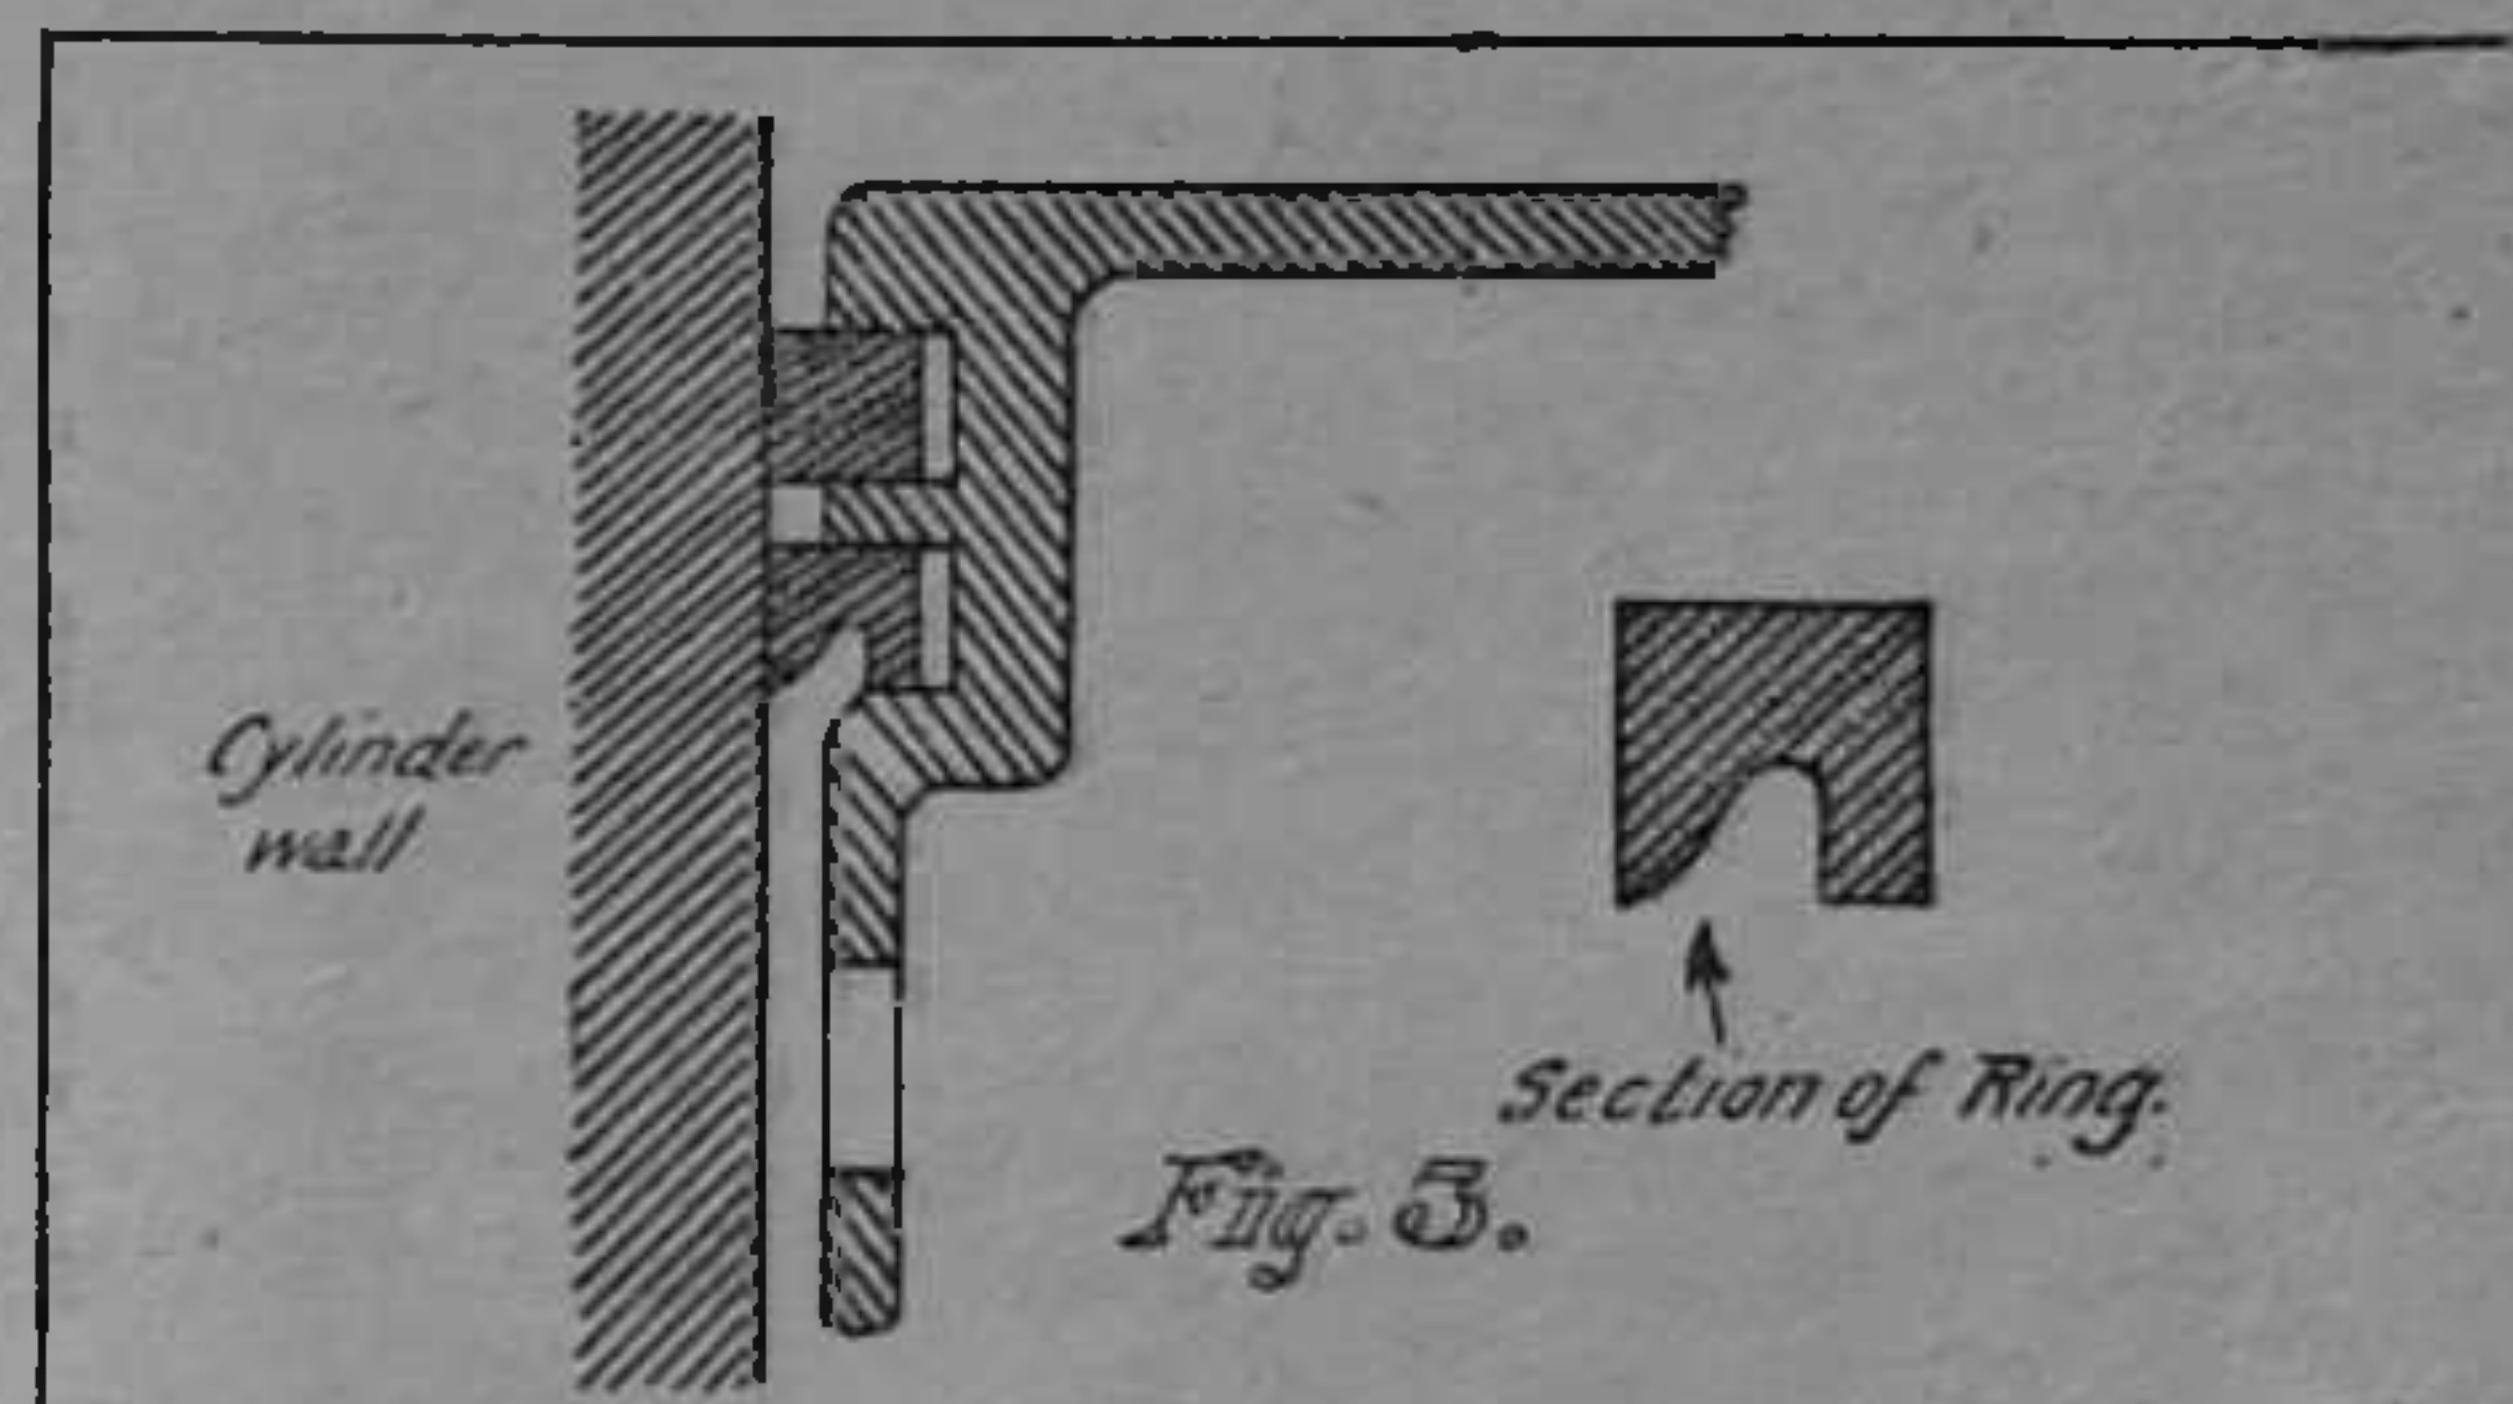

Fig. 3.—A further alteration to the lower piston ring to enable it to act as a scraper.
2). Looking at this assembly, it will readily be seen that the lower ring now also acts as a scraper, so that on the downward stroke of the piston the oil, in place of being pumped into the combustion chamber, is caught by this ring and returned to the interior of the piston through the small holes around the chamfer. This quantity of oil is also considerably lessened, because the 5-16 in. holes permit a large amount to escape before it even reaches the scraper ring. From this it will be fairly obvious that the amount of oil which gets as far as the combustion chamber must be negligible; therefore an engine thus treated will travel a considerably greater mileage before requiring to be taken down for decarbonizing than will one of the orthodox type. In some designs of engines, especially those having twin cylinders of the V and opposed types, it is not always advisable to treat both pistons similarly. The reason for this is that the back cylinders of these designs, unless special lubrication systems equalizing the distribution of oil other than by splash be provided, are over-lubricated while the front cylinders are starved. In such engines treatment of the back piston and rings is all that is usually necessary, except, perhaps, in the case of the Indian and 4 h.p. Douglas, which have direct and positive lubrication to the front cylinder. In pistons of the single-ring type a combined compression-retaining and scraper ring of the type shown in Fig. 3 may be fitted. This is an excellent design of ring, incorporating several interesting points that the expert will notice without much difficulty.